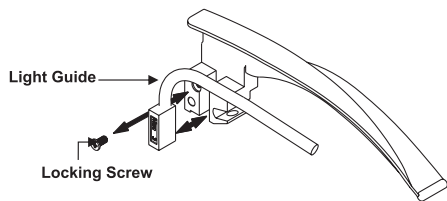

Fig 4
In the Gima Green blades the fiber optic light blades stems are removable and are interchangeable with a same size blade. By unscrewing the locking side screw as shown in Fig. 4, the light guide can be disengaged and removed for cleaning, repairs or replacement. The removable light guide also has the added advantage that it enables quicker and cheaper repair to be performed should the fibers break due to rough use, or need replacing due to natural wastage.
1. Remove locking screw with a screw driver as show in Fig 4.